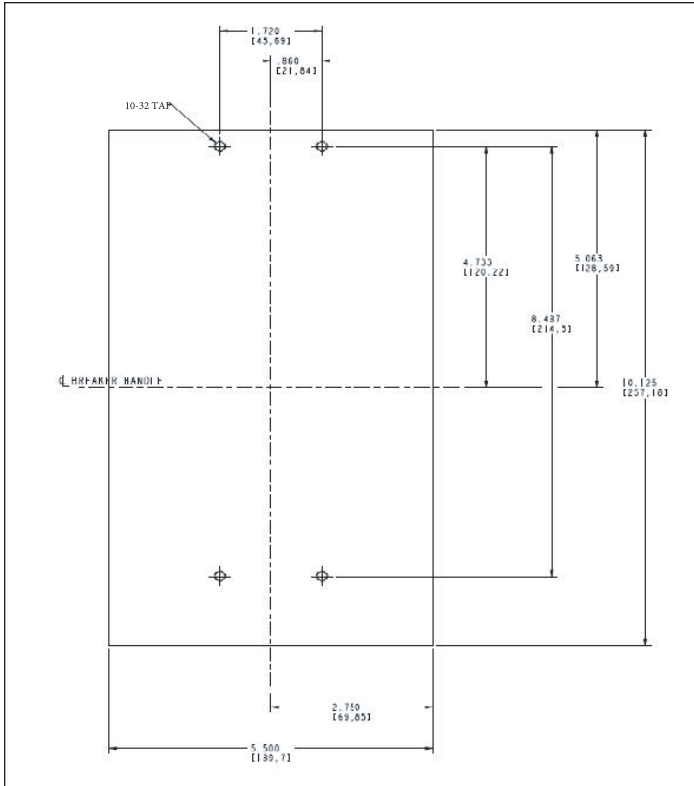

Figure 2. Drill and Tapping Plan for PDG3 Breaker.
1. Determine the position for circuit breaker in the enclosure. Drill and tap the circuit breaker mounting holes in the enclosure mounting surface as shown in Figure 2